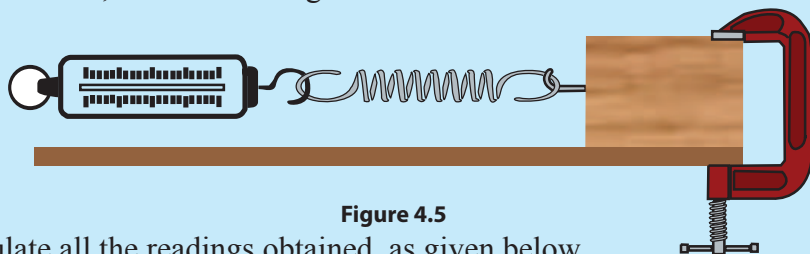

Figure 4.5
- Connect the helical spring as shown in figure 4.5.
- Join the other end of the helical spring to the spring balance as shown in figure 4.5. Pull the spring balance till the length of the helical spring is increased by 10 cm. Then, take the reading of the balance.